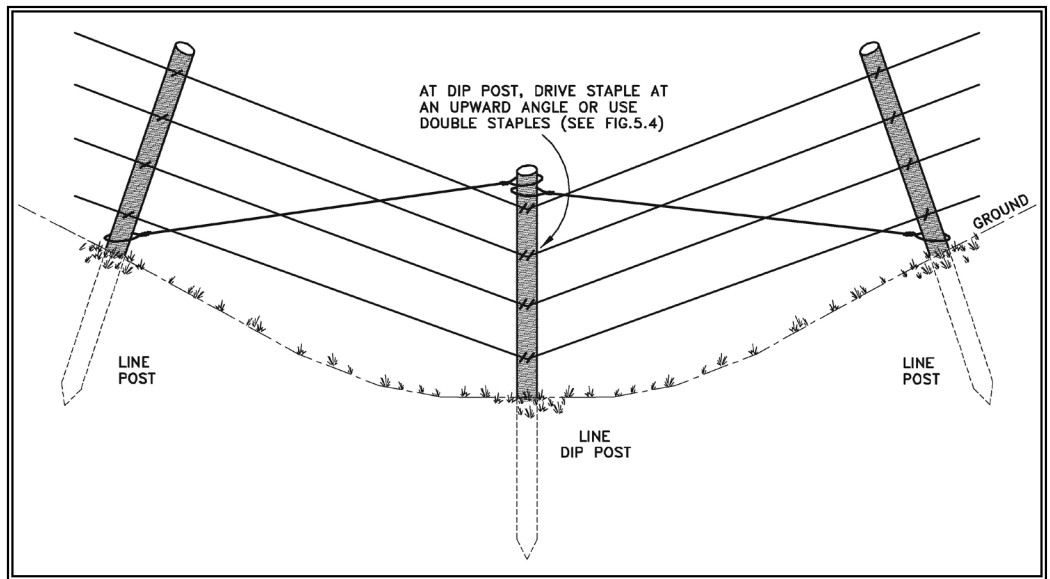

Figure 7 **Wire Bracing a Dip Post**
- wire from the top of the gully post to the bottom on each neighbouring line post as shown in Figure 7, below